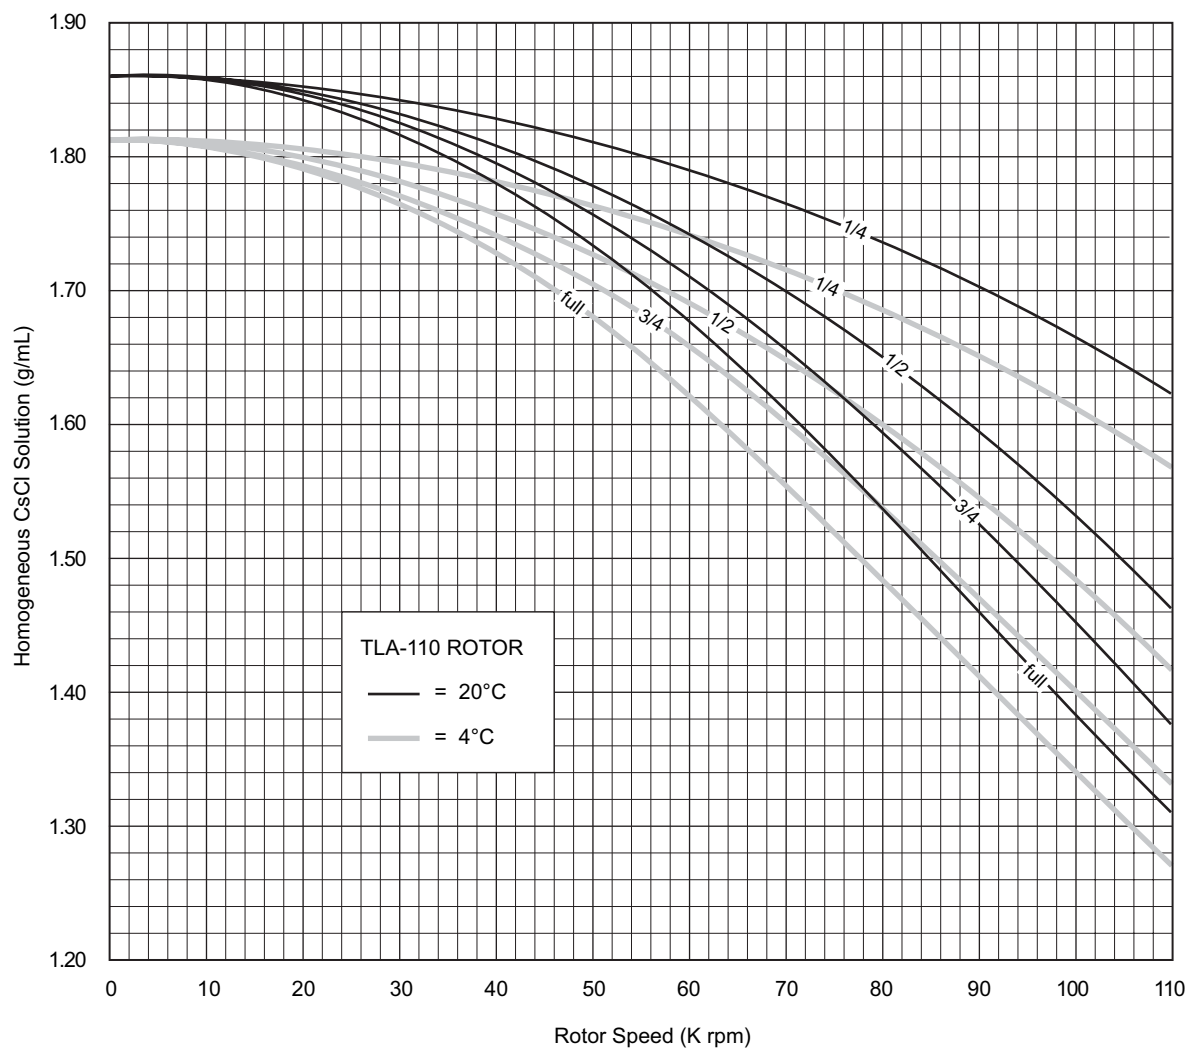

Figure 3. Precipitation Curves for the TLA-110 Rotor (3.5-mL Quick-Seal Tubes).
2. *Further speed limits must be imposed* when CsCl or other self-forming-gradient salts are centrifuged, as equation (6) does not predict concentration limits/speeds that are required to avoid precipitation of salt crystals. Precipitation during centrifugation would alter the density distribution of CsCl and this would change the position of the sample bands. Figures 3 and 4, together with the description and examples below, show how to reduce run speeds when using CsCl gradients.
Precipitation during centrifugation would alter density distribution, and this would change the position of the sample bands. Curves in Figures 3 and 4 are provided up to the maximum rated speed of the rotor.
The curves in Figures 3 and 4 are for solutions of CsCl salt dissolved in distilled water only. If other salts are present in significant concentrations, the overall CsCl concentration may need to be reduced.
Rotor speed is used to control the slope of a CsCl density gradient, and must be limited so that CsCl precipitation is avoided. Speed and density combinations that intersect on or below the curves in Figure 3 ensure that CsCl will not precipitate during centrifugation in the TLA-110 rotor. Curves are provided at two temperatures: 20°C (black curves) and 4°C (gray curves).
The reference curves in Figure 4 show gradient distribution at equilibrium. Each curve in Figure 4 is within the density limits allowed for the TLA-110 rotor: each curve was generated for a single run speed using the maximum allowable homogeneous CsCl densities (one for each fill level) that avoid precipitation at that speed. (The gradients in Figure 4 can be generated from step or linear gradients, or from homogeneous solutions. But the total amount of CsCl in solution must be equivalent to a homogeneous solution corresponding to the concentrations specified in Figure 3.) Figure 4 can also be used to approximate the banding positions of sample particles.
1. In Figure 3, find the curve that corresponds to the desired run temperature (20°C) and fill volume (three-quarters full). The maximum allowable rotor speed is determined from the point where this curve intersects the homogeneous CsCl density (86 000 rpm).
4. From Figure 3, select the maximum homogeneous CsCl density (in this case, 1.59 g/mL) that corresponds to the temperature and run speed established above. These parameters will provide the particle-banding pattern selected in Step 2.